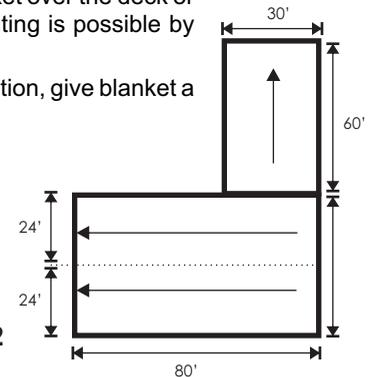

Fig. 2
A. Determine the best location for the Reel(s) on the pool (see Fig. 2). The end of the pool is often the preferred location. On some pools, a mid-point location may be required to prevent dragging the blanket over the deck or avoid diving boards and ladders. Small blanket extensions may be folded in. Wall mounting is possible by removing the casters.